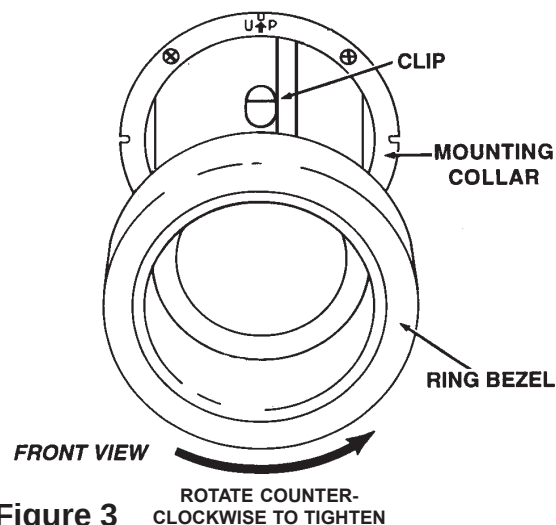

Figure 3
- Insert the cup dispenser into the mounting collar so that the clip is aligned with the "UP" arrow. (See Figures 3 & 4)